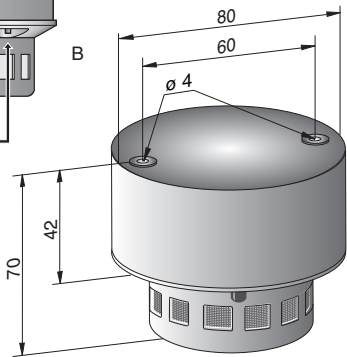

Fig. 2
- Attach the base to the installation point using the installation kit supplied (see Fig. 2 for dimensions).
- Finally, after allowing it to warm up for 2 minutes, check the function of the gas detector by pressing the test button (3).